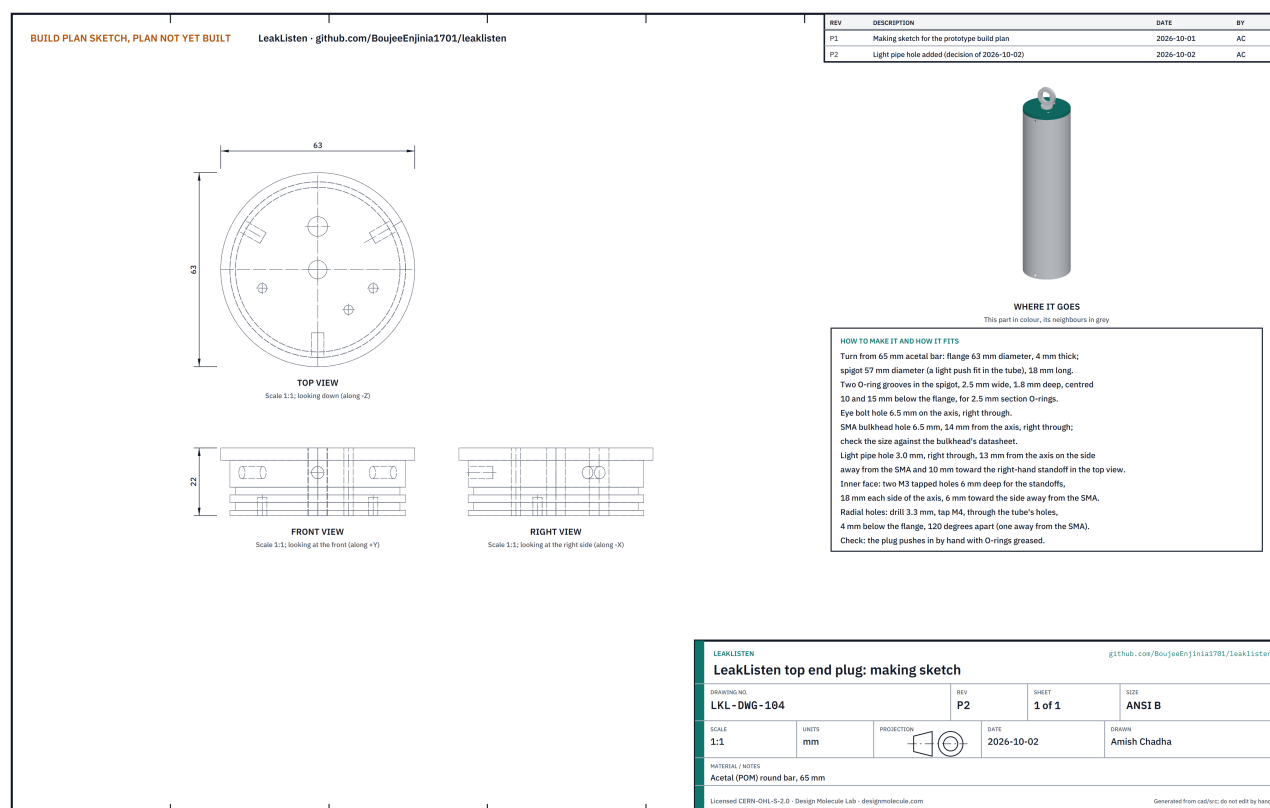

Figure 6. Top end plug making sketch (LKL-DWG-104).
4. Drill a 3.0 mm hole right through for the status light pipe: 13 mm from the axis on the side away from the antenna connector, and 10 mm toward the right-hand standoff as Figure 6 shows it. It sits over the top edge of the board once the frame is hung.